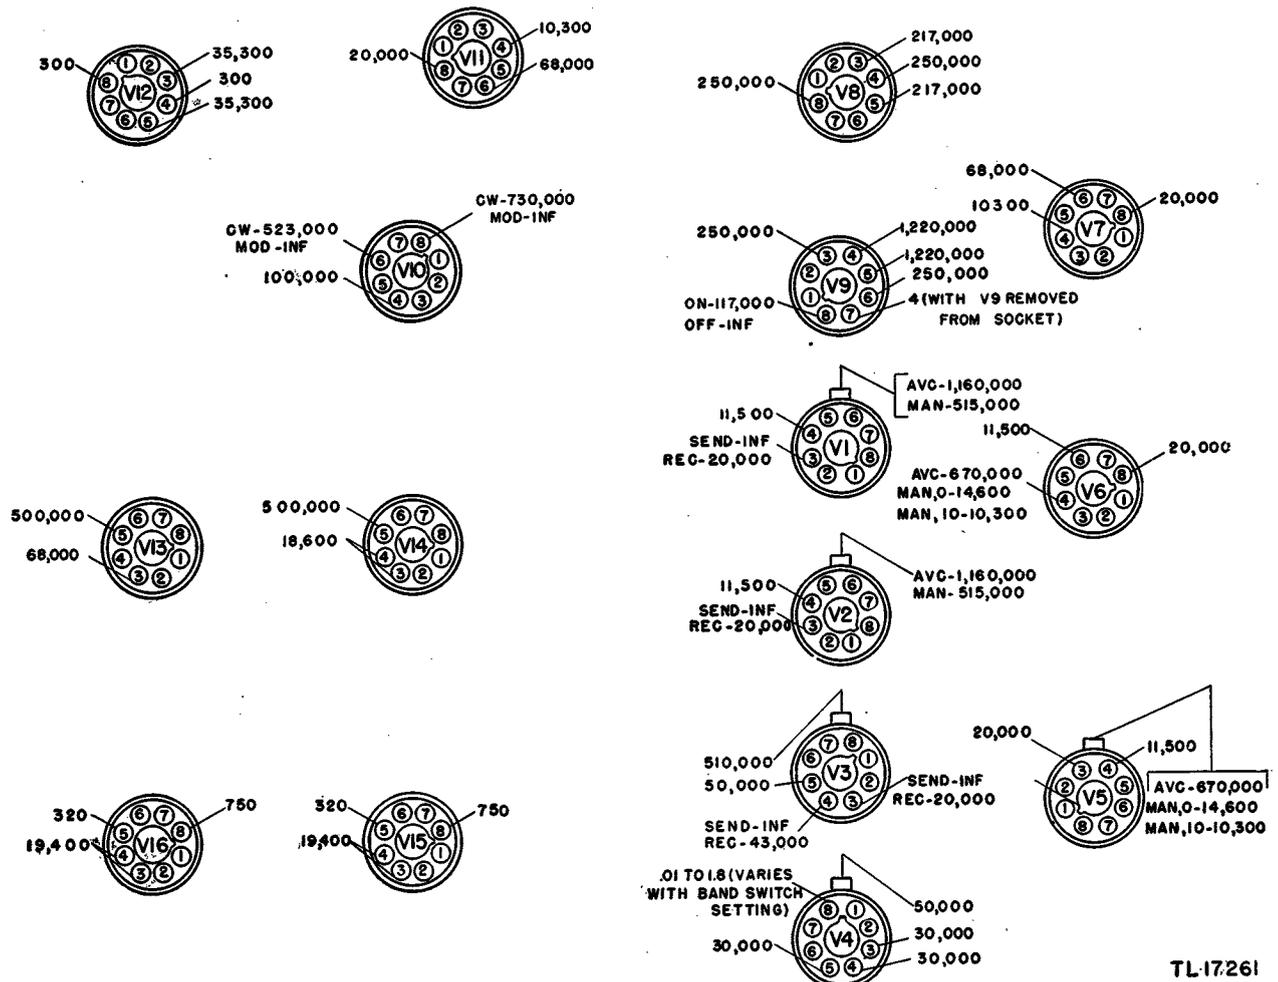

Figure 9. Tube socket resistance chart.
for the presence of undesired open circuits, make the resistance measurements indicated in figures 9 and 10. When resistance measurements have been found to be correct, skip to *d* below and continue procedure.
- (1) All removable parts shall have been replaced in the receiver, with the exception of the tubes.
- (2) No power applied to receiver.
- (3) Take all measurements between the specified points on figures 9 and 10 and receiver chassis.
- (4) Set receiver controls as follows: